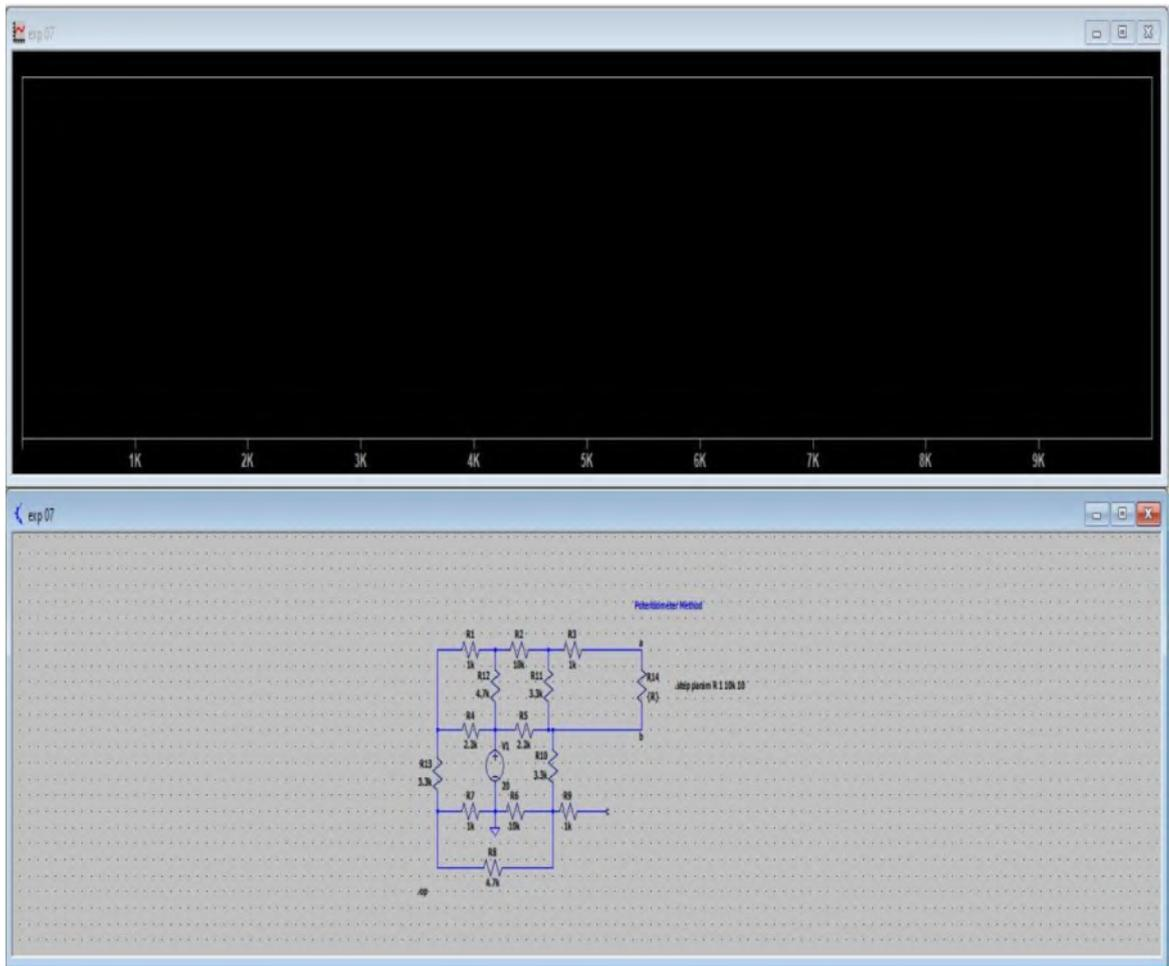

Figure: 6
- 10) From the window shown in figure 6 place voltage markers at node a and b.